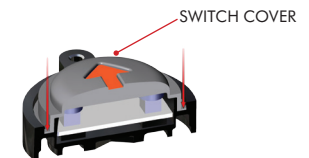

Figure 4
7. Install rubber switch membrane back into the foot switch base and ensure that the rubber switch membrane is seated properly prior to installing the cover **FIG. 4**